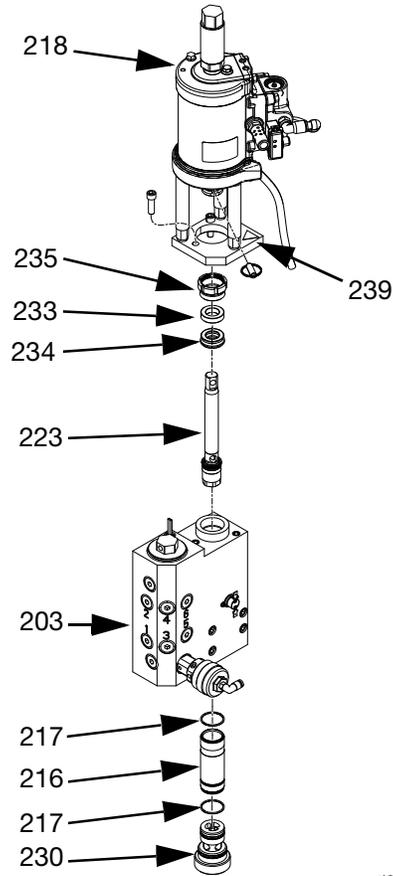

FIG. 34
- a. Remove retaining ring (239).
- b. Remove dowel pin (238).
- c. Remove three screws (240).
8. Use a flat head screwdriver and a rubber mallet to break loose the retaining nut (235).
9. Use channel lock pliers to remove the retaining nut (235).
10. Insert an allen wrench through the hole in the top of the piston rod (223) to lift the piston rod (223) up out of the manifold. This will also pull out the throat u-cup (234) and throat bearing (233).
12. Use a 1/2 in. drive ratchet without a socket to remove foot valve (230) from bottom of melter outlet manifold (203). See FIG. 34, page 64.
13. Insert cylinder tool (1301) into bottom of melter outlet manifold (203). Use a rubber mallet to gently remove cylinder (216).
4. Use a 1/2 in. drive ratchet without a socket to install and tighten foot valve (230) into bottom of melter outlet manifold (203). See FIG. 34, page 64.